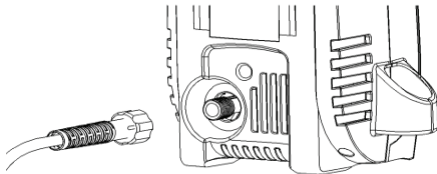

Figure 3
2. Screw the connector onto the end of the high pressure hose and trigger assembly onto the water outlet pipe. See figure 3 and 4.